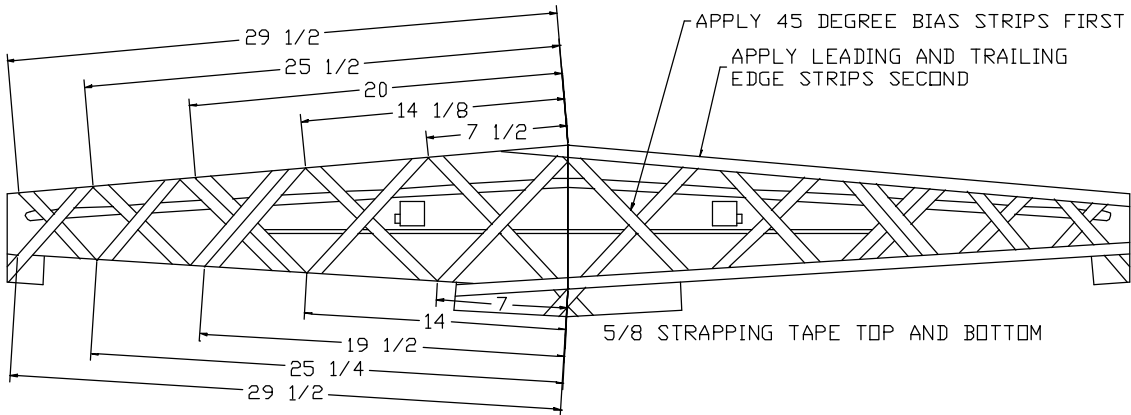

Figure 5
- ❑ Apply the 5/8” fiber reinforced strapping tape as shown if figure 5. Stretch tape firmly while applying it so it lays up flat. A third hand may come in handy here.